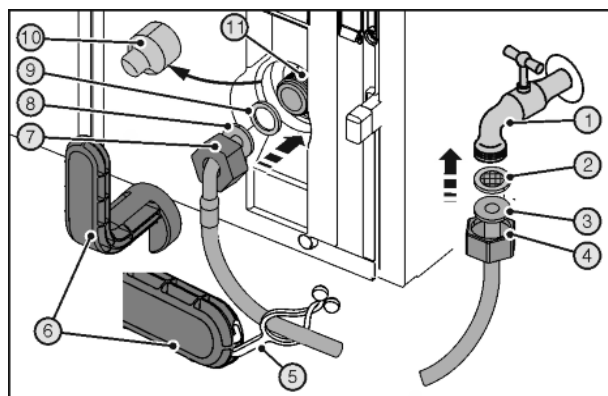

Fig. 44
Cuts from a broken auxiliary tool Fig. 44 (6).
- Only use an auxiliary tool Fig. 44 (6) at room temperature.
- Slide the nut Fig. 44 (4) over the straight end of the hose Fig. 44 (3) up to the end and secure.
- Insert the filter Fig. 44 (2) into the nut Fig. 44 (4).
- ▷ The filter Fig. 44 (2) rests flat on the straight end of the hose Fig. 44 (3) and is easily retained.
- Connect the nut Fig. 44 (4) to the cut-off valve Fig. 44 (3) with the filter resting on the straight end of the hose Fig. 44 (2).
- Open the water supply cut-off valve Fig. 44 (1) temporarily to bleed the water pipe and fill it with water. Keep the hose in a bucket.
- Remove the cover Fig. 44 (10).
- Slide the nut Fig. 44 (7) over the angled end of the hose Fig. 44 (8) up to the end and secure.
- Moisten the seal Fig. 44 (9) and push into the nut Fig. 44 (7) on the end of the angled hose Fig. 44 (8).
- ▷ The seal Fig. 44 (9) lies flat on the angled end of the hose Fig. 44 (8) and is easily retained.
- Connect the nut Fig. 44 (7) to the solenoid Fig. 44 (8) with the seal resting on the Fig. 44 (9) angled end of the hose Fig. 44 (11).
- Tighten connections with the auxiliary tool Fig. 44 (6) clockwise until the maximum torque is reached and the auxiliary tool Fig. 44 (6) is overwound.
- Open the water supply cut-off valve Fig. 44 (1) and check the whole water system for leaks.
- Hook the clip Fig. 44 (5) into the auxiliary tool Fig. 44 (6) and fix it to the stainless steel pipe to store it.